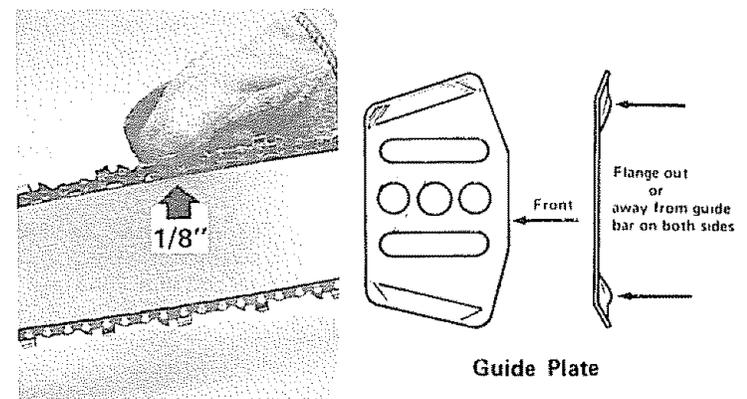

Figure 6
6. Lift the chain near the middle of the bar (Figure 6). When tensioned right, the chain will lift about 1/8" from the bar. Figure 6 shows the correct tension. Adjust your chain until it looks like this.